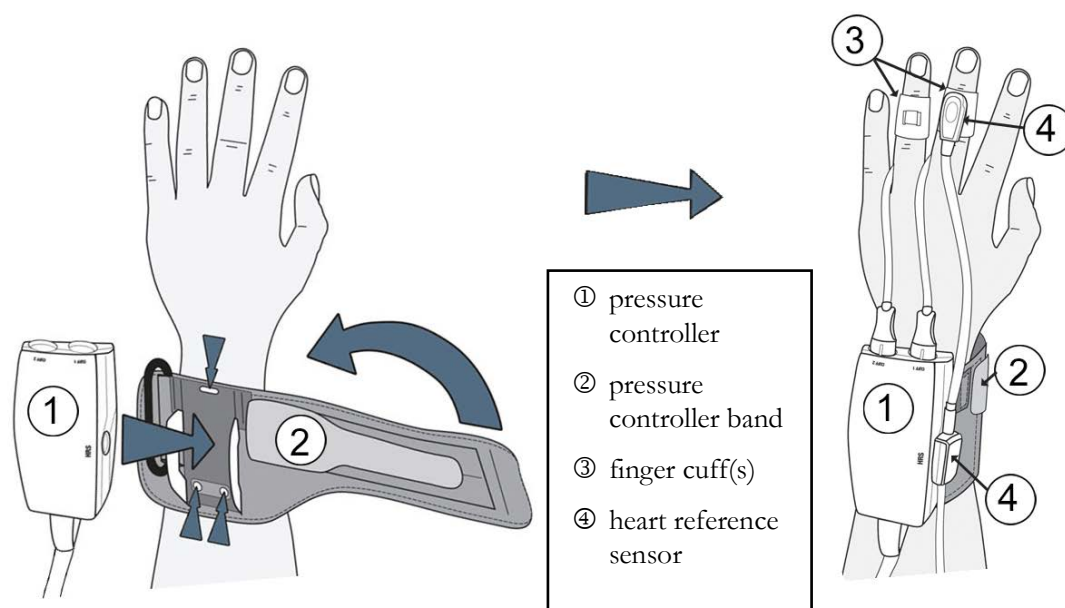

Figure 11-2 Pressure controller application
testing to support the safety and performance of the device for its intended use when used in accordance with the established Instructions for Use. The pressure controller is worn on the patient's wrist and connects to the HemoSphere ClearSight module, HRS and finger cuff(s). See figure 11-2.
- 1 Wrap the pressure controller band around the patient's wrist. The non dominant hand is preferred for monitoring in awake patients. (figure 11-2, left)